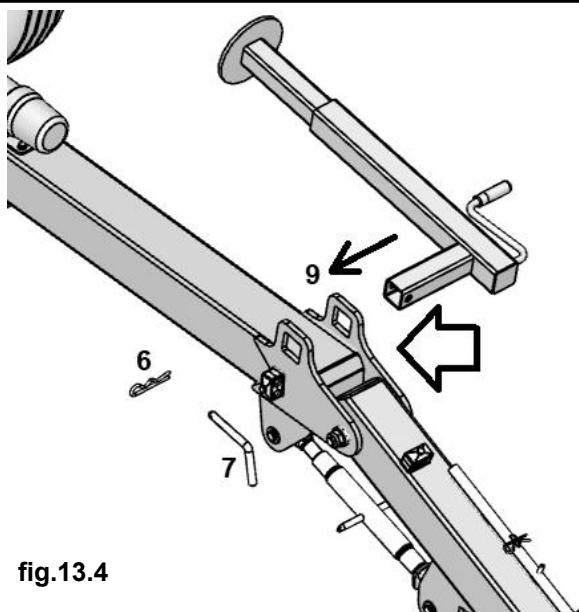

fig.13.4
Fig.13.4 - To remove the bearing foot: remove the R cotter pin (6), pull out the handle pin (7) from its seat and take the bearing foot out of its housing (8). Next, turn the foot anti-clockwise, as shown in fig.13, and insert it in housing up (9), foreseen for the working phase. Insert the handle pin (7) in its new seat and fasten it by its R cotter pin (6).
- place the bearing feet for the parking phase (see fig.13.4); and remove the bar rake from the tractor (see previously paragraph);